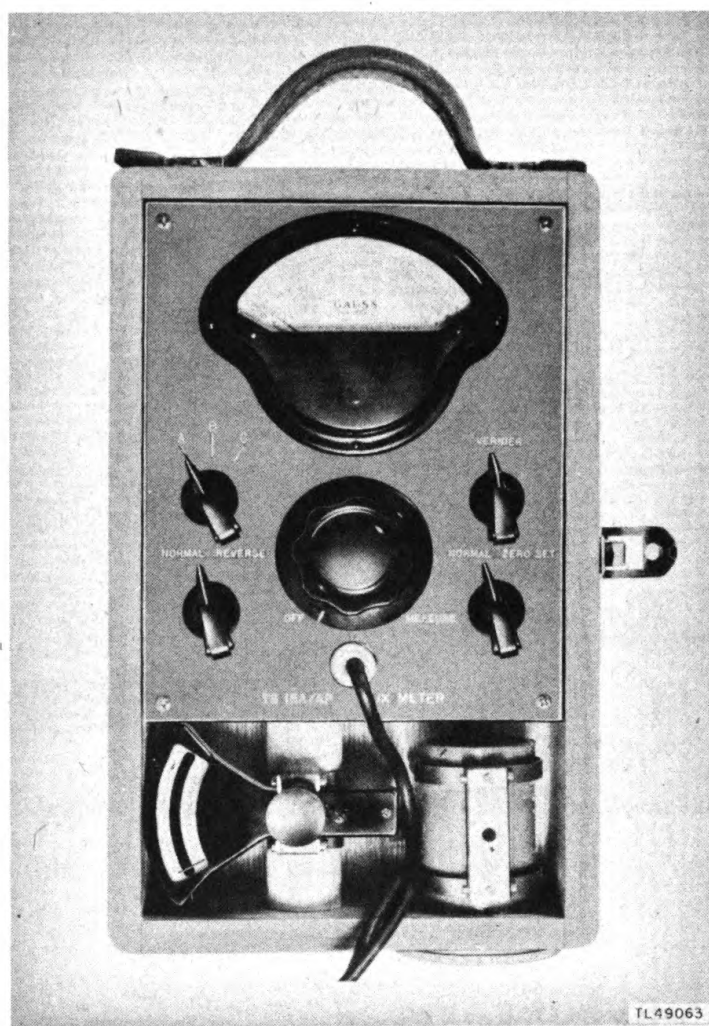

Figure 3. Fluxmeter TS-15A/AP.
5. FLUXMETER TS-15A/AP (fig. 3).